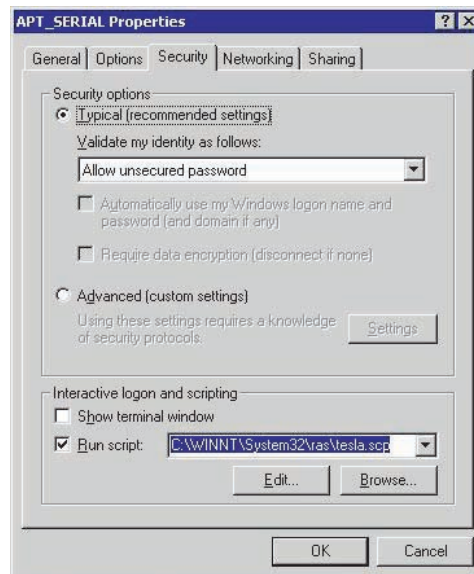

Figure 3.23: Windows 2000 APT_SERIAL Security Settings
- 12 Select the *Security* tab and configure the settings as shown in Figure 3.23.